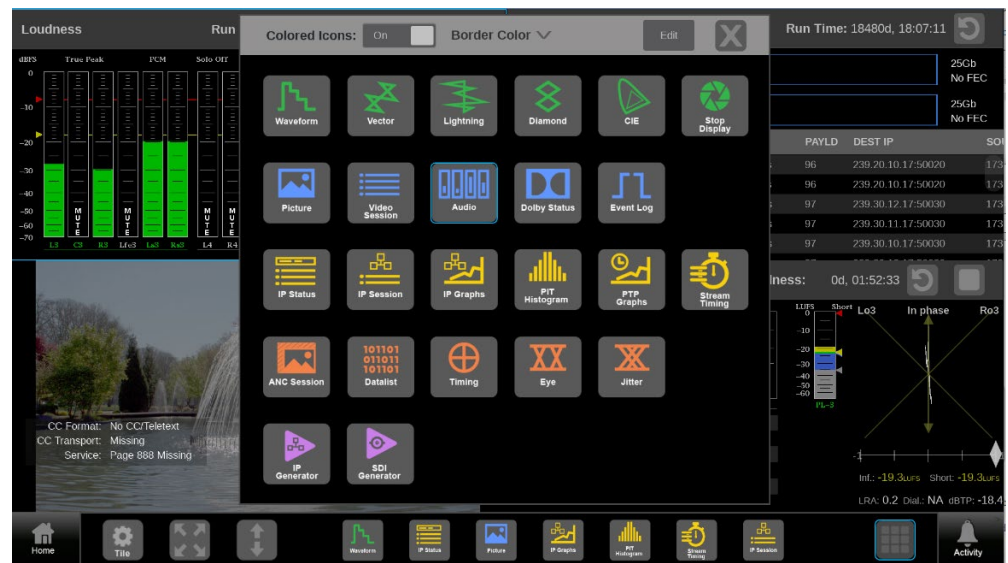

Figure 7: PRISM display in four-tile mode
Figure 7 shows the full application menu, which has all the available applications, open in front of 4 tiled applications. The full application menu changes depending on the options purchased.
3. If an application is not available on the application menu, select the  icon, at the right of the application menu, to open the application menu, which shows all available applications, and select the application. See Figure 7.